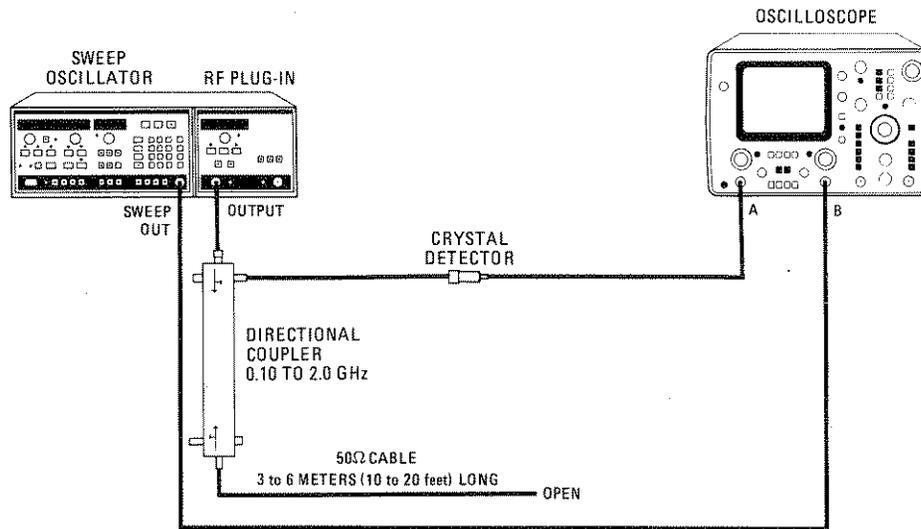

Figure 4-10. Low Frequency Output SWR Test Setup
1. Connect equipment as shown in Figure 4-10.